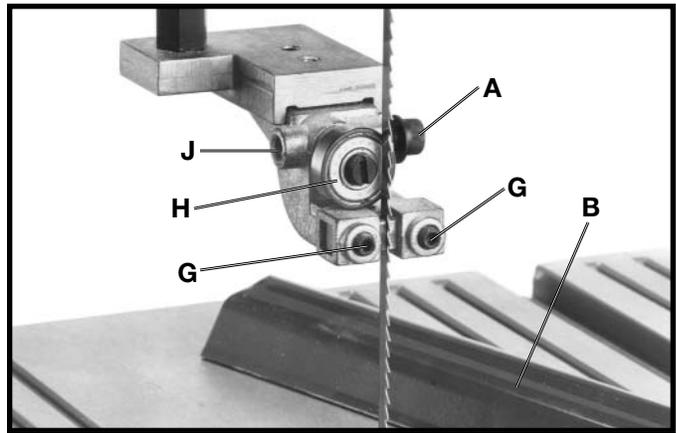

Fig. 21
1. Loosen screw (A) Fig. 21, and remove blade guard (B) from guide assembly.
3. The upper blade guides are held in the guide bracket with set screws (G) Fig. 21. Loosen set screws (G) and adjust blade guides as close as possible to the sides of the saw blade being careful not to pinch the saw blade. Then tighten screws (G).
4. The upper blade support bearing (H) Fig. 21, prevents the blade from being pushed back too far while cutting which could damage the set in the saw teeth. The upper support bearing (H) should be adjusted approximately 1/64" behind the blade by loosening set screw (J), moving the support bearing in or out until it is 1/64" behind the back of the blade and tightening set screw (J).